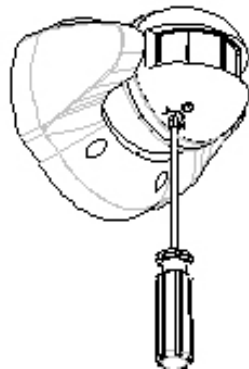

FIGURE 4
4. The time control knob is designed to control the length of time that the receiver should be turned on. It is set from 5 seconds to 12 minutes. "T" means 5 seconds, while "+" is 12 minutes. (FIGURE 4)